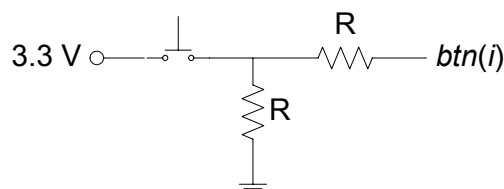

Figure 1.4 Pushbutton connection
- 1.1 The four pushbuttons on the BASYS and Nexys-2 boards are connected to pins on the FPGA using the circuit shown in Fig. 1.4. The value of R is $4.7\text{ k}\Omega$ on the BASYS board and $10\text{ k}\Omega$ on the Nexys-2 board. When the pushbutton is up the two resistors pull the input down to ground and the input *btn(i)* to the FPGA is read as a logic 0. When the pushbutton is pressed the input is pulled up to 3.3 V and the input *btn(i)* to the FPGA is read as a logic 1. Create a *.bde* file using Active-HDL that will connect the four pushbuttons to the rightmost four LEDs. Compile and implement the program. Download the *.bit* file to the FPGA board and test it by pressing the pushbuttons.